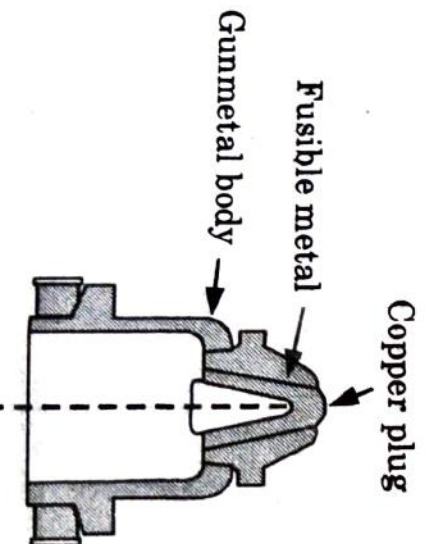

Fig. 3.5.3. Fusible plug.
1. Fusible plug has gun metal body. Fig. 3.5.3 shows the arrangement of fusible plug.